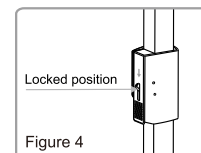

Figure 4
2. Turn the lock downwards to "Locked" position. (Figure 4 - 5)